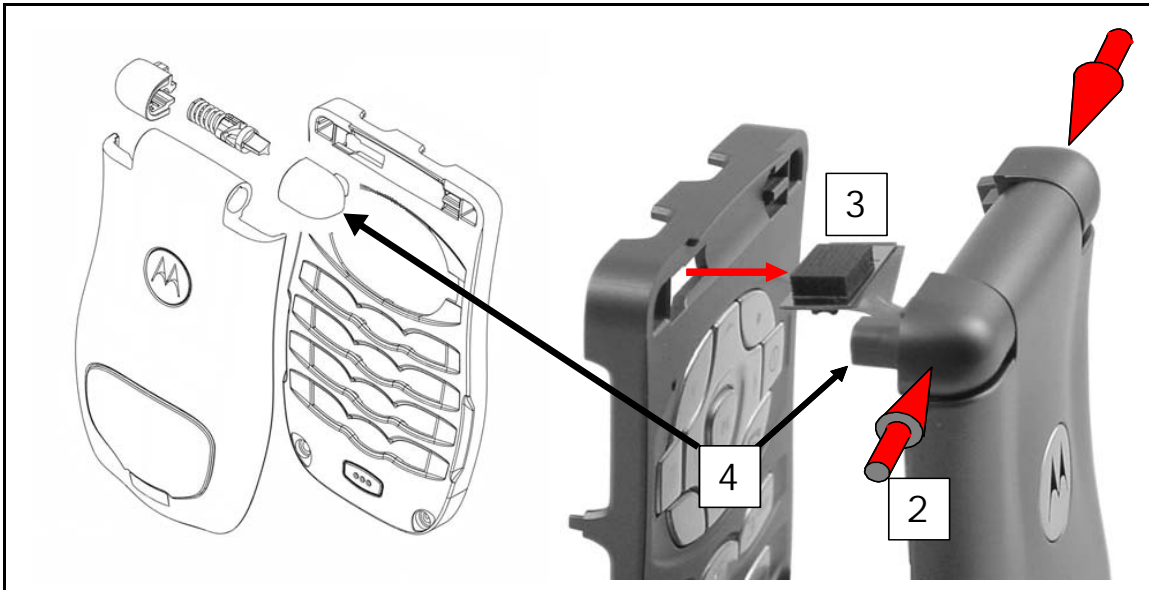

Figure 7-22.
1. Remove T-6 screw holding flip assembly to front housing (see Figure 7-22).
4. Note position and rotation of flip knuckle to facilitate reinstall (see Figure 7-22.).